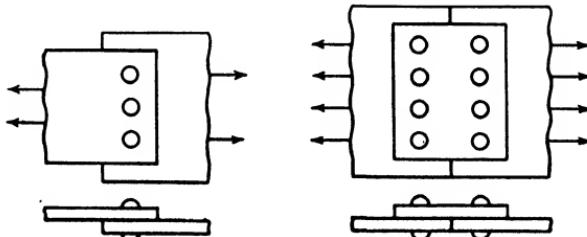

Fig. 233.
- Find the strength in shear of the lap joint in Fig. 233, using $\frac{1}{8}$ in. diameter 17S-T rivets driven hot.
- What is the strength of the butt joint in Fig. 233 if all rivets are $\frac{3}{8}$ -in. 24S-T driven cold immediately after quenching?